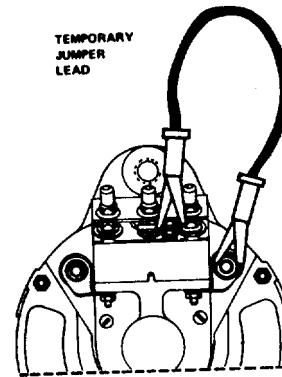

FIG. 5
11. Connect the alternator output leads to the proper alternator terminals. Momentarily flash the field by connecting a jumper between the charge indicator light terminal on the regulator and the positive alternator terminal. (Do this regardless of whether the alternator will be used on a positive or negative ground system.) Refer to Figure 5.